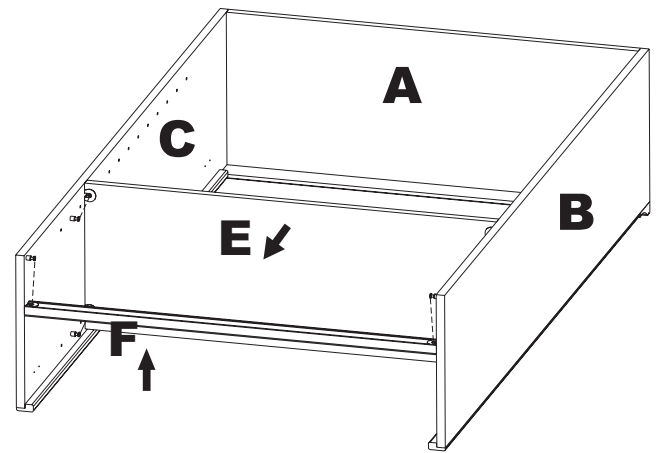

FIG. 5
4. Attach Top Shelf (A) to Left Side Panel (B) sliding the Rafx Bolts (J) into the Rafx Cams (I). Tighten the cams. Repeat to attach the Right Side Panel (C) to the Top Shelf (A). Attach the Crown (D) in the same way tightening the Cams to hold it to the Top.
5. Carefully turn the unit over on its face with the top up on a protective surface. Install the Bottom Shelf (E) sliding it over and down onto the Rafx Bolts (J). Tighten the cams. In the same way install the Back Support (F) sliding it onto the Rafx Bolts (J) in the lower back corners of each side panel. Make sure the rounded edge of the Back Support (F) is facing up and towards the front of the unit. Tighten the cams. See FIGURE 5.